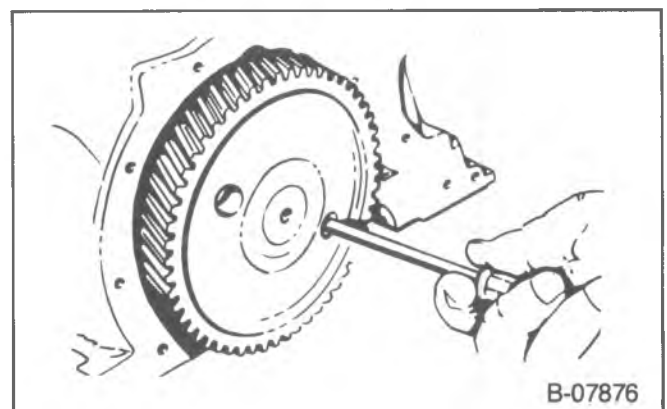

Figure 28—Removing The Camshaft Thrust Plate Bolts
11. Thrust plate bolts (39) (figure 28).